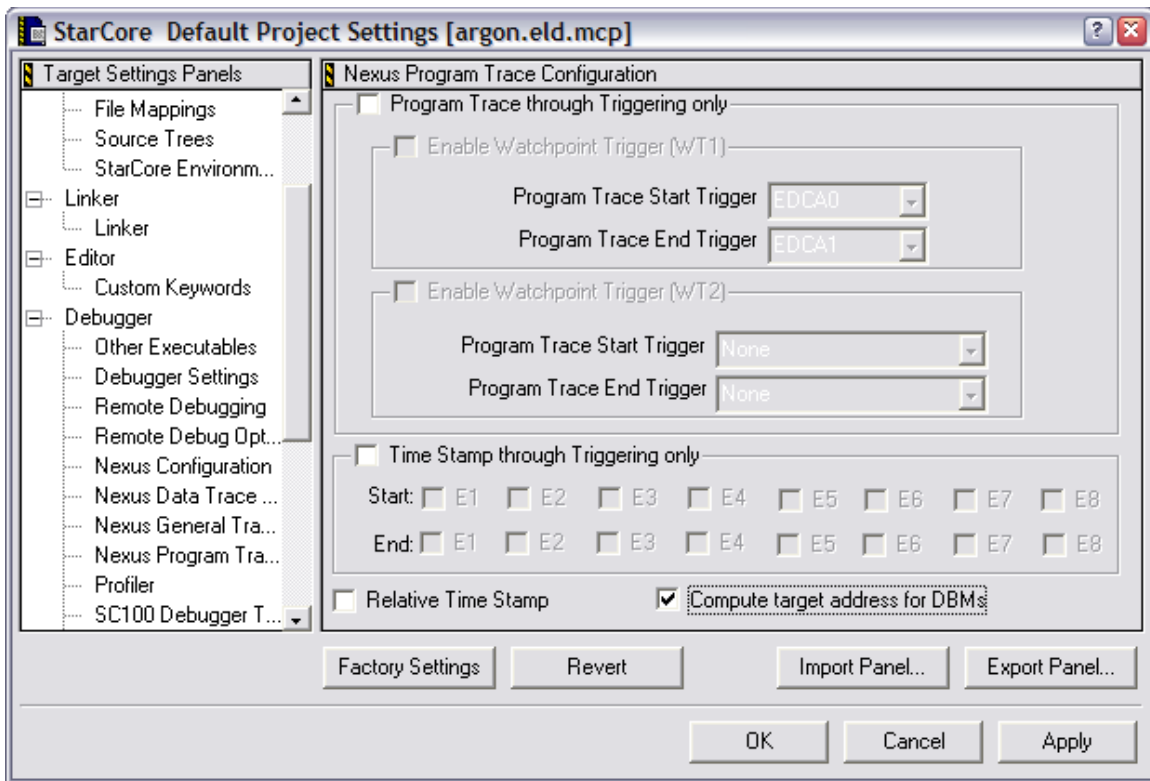

Figure 20: Program Flow Trace Setup
- c. Program flow tracing is not used in this example so the setup for Program tracing should look like Figure 20: Program Flow Trace Setup.